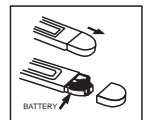

Figure 4
2. Remove battery compartment lid (Figure 4).
5. Replace the battery cover securely (Figure 4).